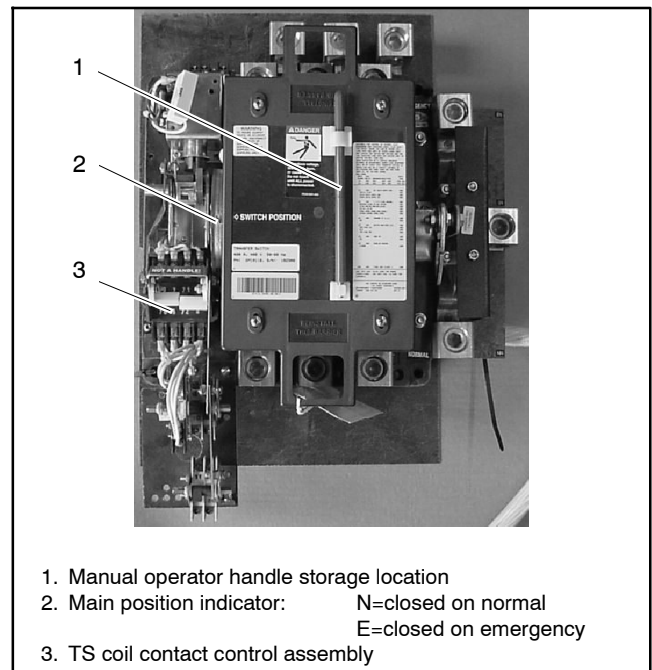

Figure 6-10 Transfer Switch, 225-400 Amp Models
3. Locate the TS coil control contact assembly. See Figure 6-10.